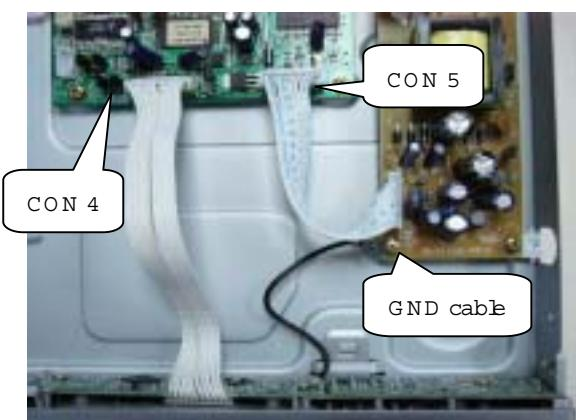

Figure 5
Step4 : Dismantling Front Panel: disconnect the 2 connectors aiming in the figure then Release the snaps on the both sides of Front Panel and gently pull the Panel out from the set. (Figure 5& 6)